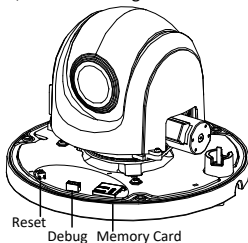

Figure 2-10 DE3xxx Series PTZ Camera
1. Loosen three screws on the bottom of camera to reveal the memory card slot, as shown in Figure 2-10.